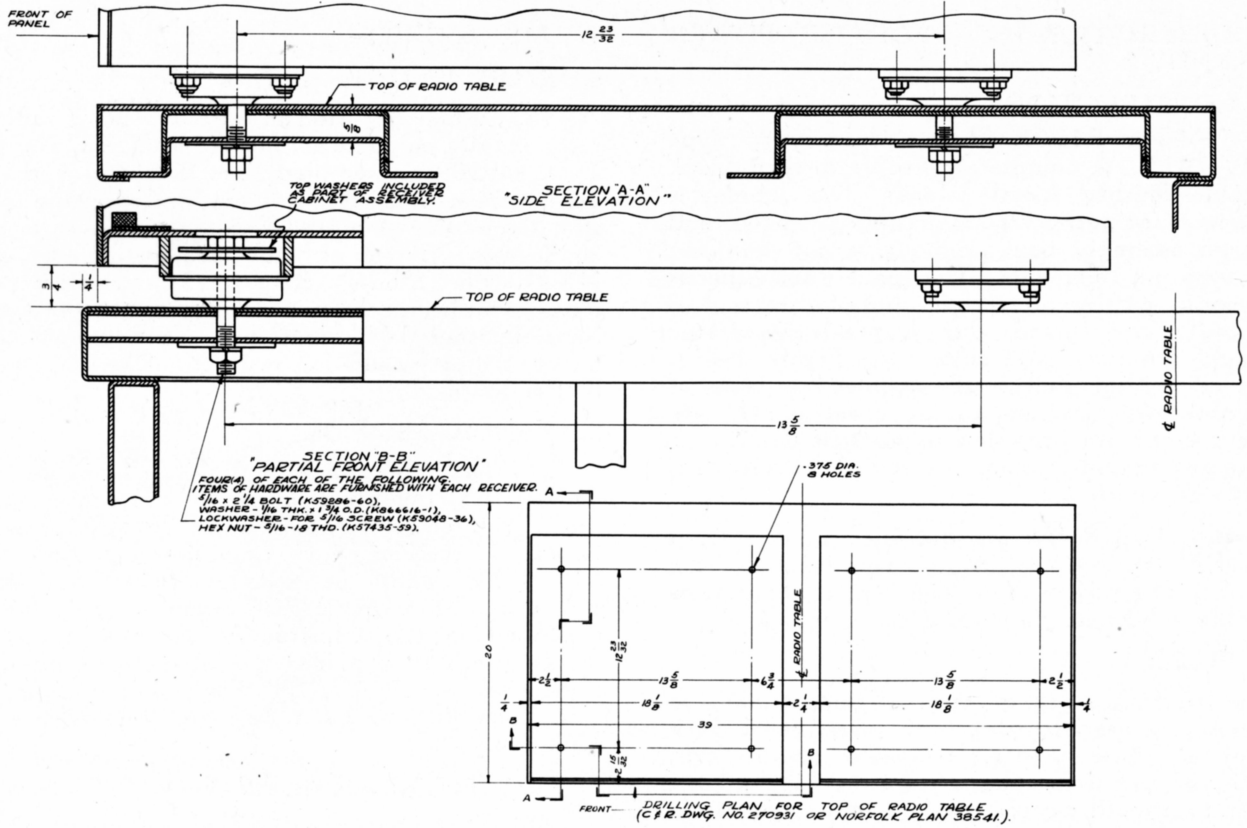

Figure 2-1 — Models RBB/RBC Radio Receivers, Mounting Diagram (PX-273649)
(1) The receiver units of the Models RBB and RBC Radio Receiving Equipments are to be mounted on top of an operating table using the rubber shock absorber mountings (A105, A106 or A205, A206) supplied with the receiver unit cabinet. The location of the receiver units on the operating table may be varied to suit particular installation requirements. Frequent reference should be made to the installation drawings, Figures 2-1 and 2-2.
(2) Remove the receiver chassis from its cabinet. This is accomplished by disengaging the thumbscrews located around the edge of the panel. These thumbscrews are of the captive type and remain in the front panel when the chassis is withdrawn.
(3) Take hold of the round pull-knobs provided on the front panel and carefully withdraw the chassis. Note that the chassis strikes a pair of stops when partially withdrawn. These stops are released by pressing on the stop arms, through holes on each side of the chassis. In case the equipment has been previously installed, it is necessary to remove the cables from the receptacles at the rear of the unit before withdrawing the chassis.
(1) Drill the top of the operating table according to the layout dimensions shown in Figures 2-1 and 2-2.
(1) Mount the cabinet in place using the bolts provided. As shown in Figure 2-1, the bolts are inserted through the shock mounts, using one large washer on top of the shock mount and another on the underside of the table.